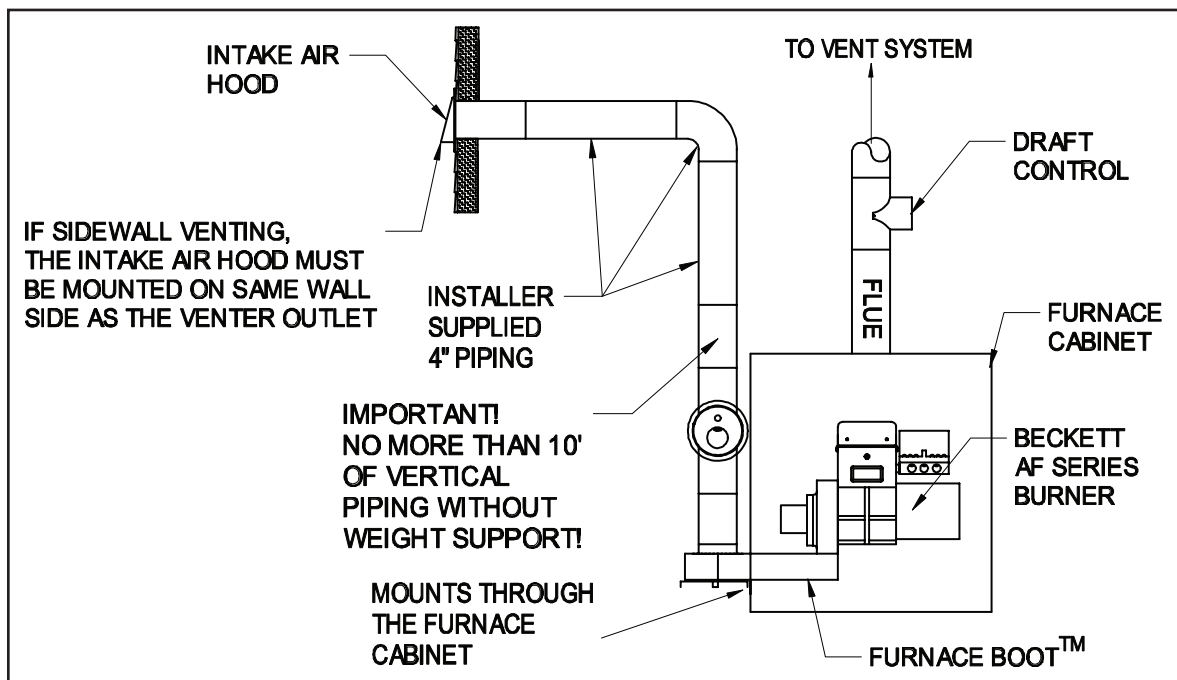

Figure 9
7. Refer to Figure 9 for general installation layout.